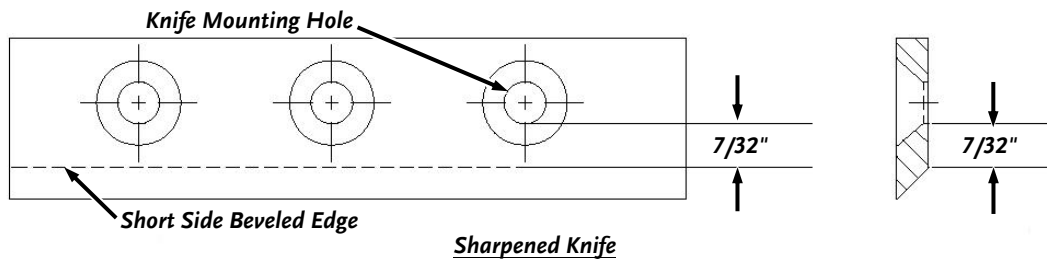

Figure 29
- Once this measurement is below $7/32$ " (**Figure 29**), or if you are unable to remove dents or gouges with these guidelines, replace the Knife.